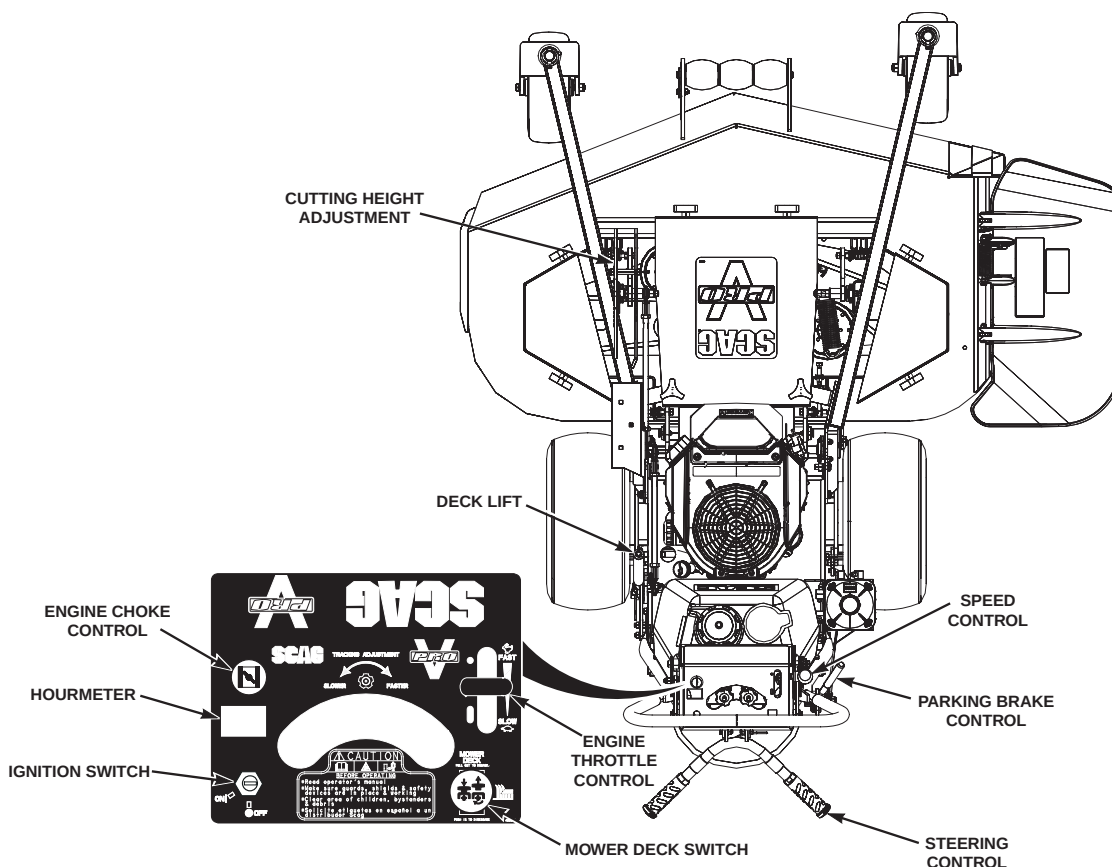

Figure 4-1 Controls
- 1. Ignition Switch (Figure 4-1).** The ignition switch is used to start the engine. Manual start engines has two positions; OFF and ON. Electric Start engines have three positions; OFF, ON, and START.
- 2. Mower Deck Switch (Figure 4-1).** Used to engage and disengage the mower drive system. Pulling up on the switch will engage the deck drive. Pushing down on the switch will disengage the deck drive.
- 3. Engine Choke Control (Figure 4-1).** Used to start a cold engine.
- 4. Engine Throttle Control (Figure 4-1).** Used to control the engine speed. Pushing the lever forward increases engine speed. Pulling the lever back decreases engine speed. Full back position is the IDLE position. Full forward is the cutting position.
- 5. Hourmeter (Figure 4-1).** Indicates the number of hours the engine has been operated. It operates whenever the engine is running. Has preset maintenance reminders for engine and hydraulic system oil changes. Will start flashing scheduled maintenance 2 hours before preset time and continue flashing until 2 hours after. Automatically resets.
6. **Steering Control (Figure 4-1).** Used to control the mower's travel direction. See Section 4.5 for further details regarding the mower's travel controls.
7. **Speed Control (Figure 4-1).** Used to set the mower's maximum FORWARD speed. See Section 4.5 for further details regarding the mower's travel controls.
8. **Parking Brake Control (Figure 4-1).** Used to engage and disengage the parking brakes. Pull the lever back to engage the parking brakes. Push the lever forward to disengage the parking brakes.
9. **Deck Lift Lever (Figure 4-1).** Used to raise and lower the cutter deck.
10. **Cutting Height Adjustment (Figure 4-1).** Used to set the cutter deck at the desired cutting height.